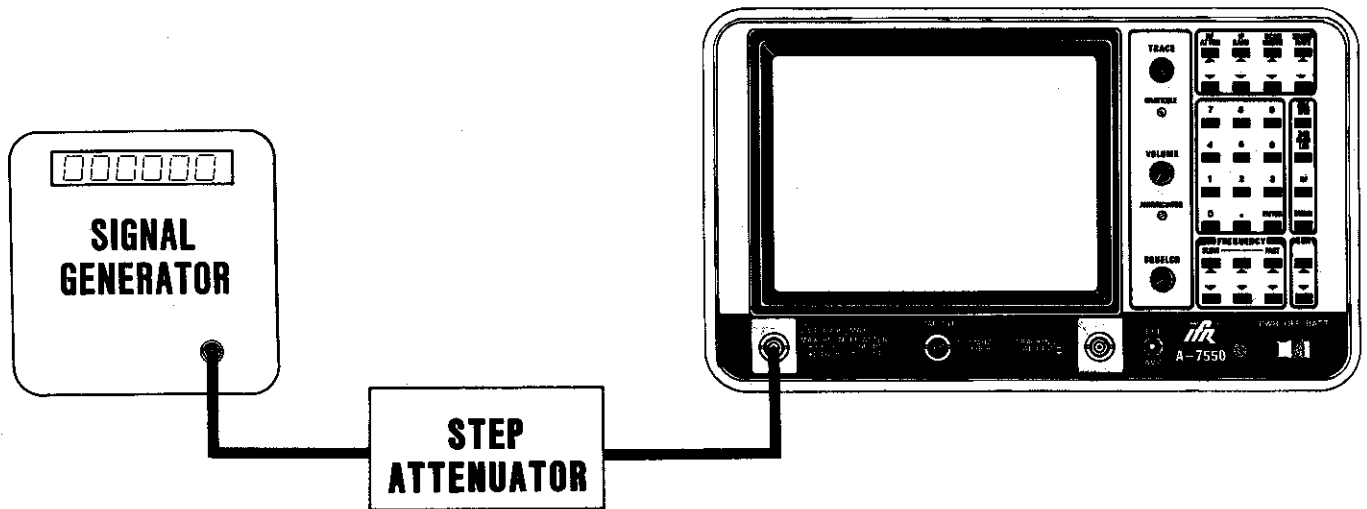

Figure 3-5 Input Attenuator Test Setup
2. Connect equipment as shown in Figure 3-5. Set Step Attenuator to 0. Set RF Signal Generator to 225 MHz at -34 dB (i.e., second graticule from the top of the A-7550 display).